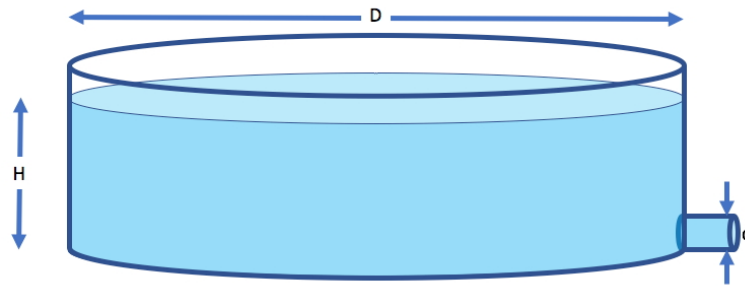
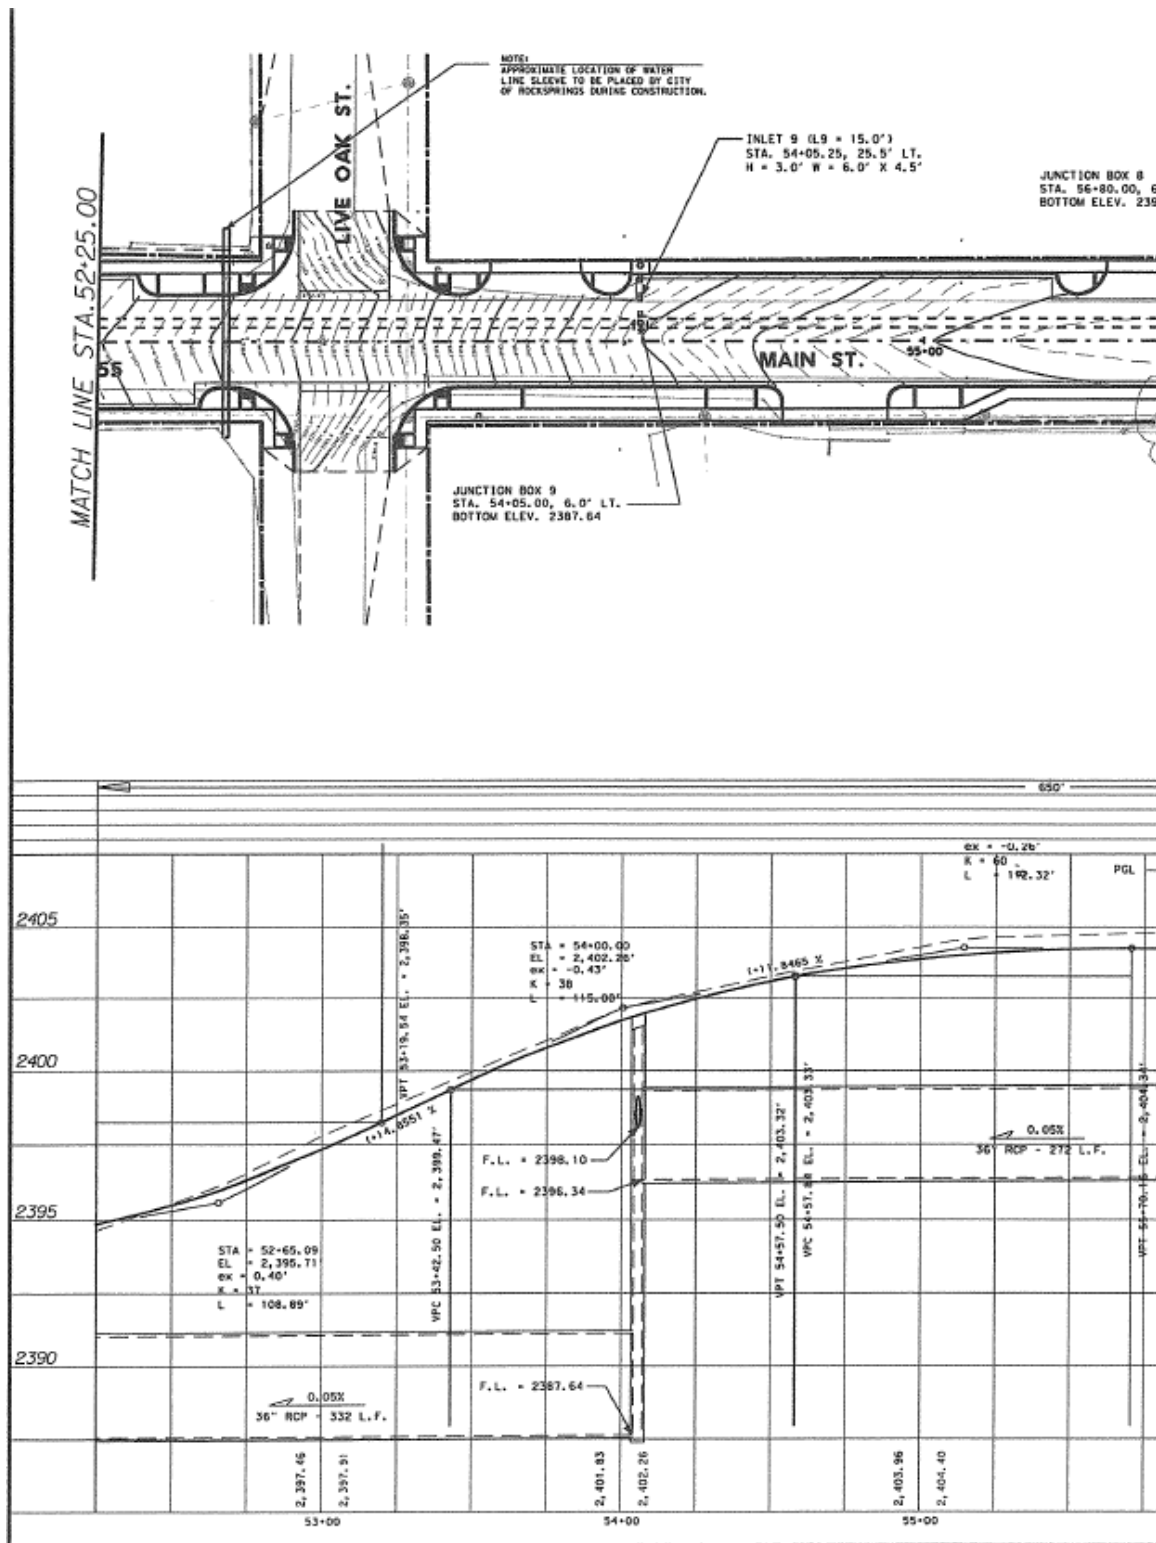

Figure 1: Circular Tank
Figure 2: Plan and profile of a storm sewer system
5. Figure 1 is a circular (plan view) detention pond. The tank diameter, D , is 30 meters. The outlet diameter, d , is 127 millimeters. The initial depth in the pond is 2 meters. Assume the discharge velocity is $V(t) = \sqrt{2gH(t)}$
- (I) What is the outflow rate in Liters-per-second, if there is a supply of water that maintains the tank depth at 2 meters?
- (II) What is the time, in hours, for the tank to drain if there is no external supply and the discharge coefficient is unity ($c_d = 1$)?
6. The questions below page refer to Figure 2 on the following page .
- (I) Is the design flow in the drawing from left-to-right, or right-to-left?
- (II) What object is depicted at station STA 54+05.00 in the plan view portion of the drawing?
- (IV) What is the diameter of the conduits indicated on the drawing?
- (V) What is the slope (in percent) of the storm sewer conduits?
- (VI) Relative to the drop structure, what is the flow-line (invert) elevation of the left-most sewer pipe?
- (IX) Relative to the drop structure, what is the soffit (crown) elevation of the right-most sewer pipe?